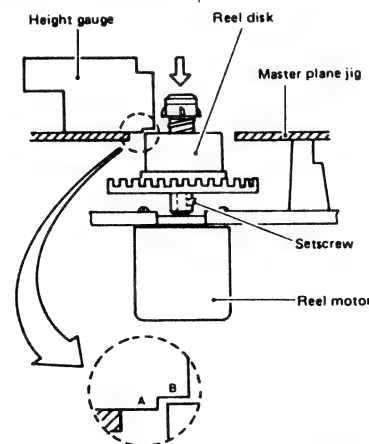

Fig. 2-21 Reel disk height adjustment
3. The correct height is between planes A and B, as shown in Fig. 2-21. If necessary, loosen the setscrew and adjust to the correct height.